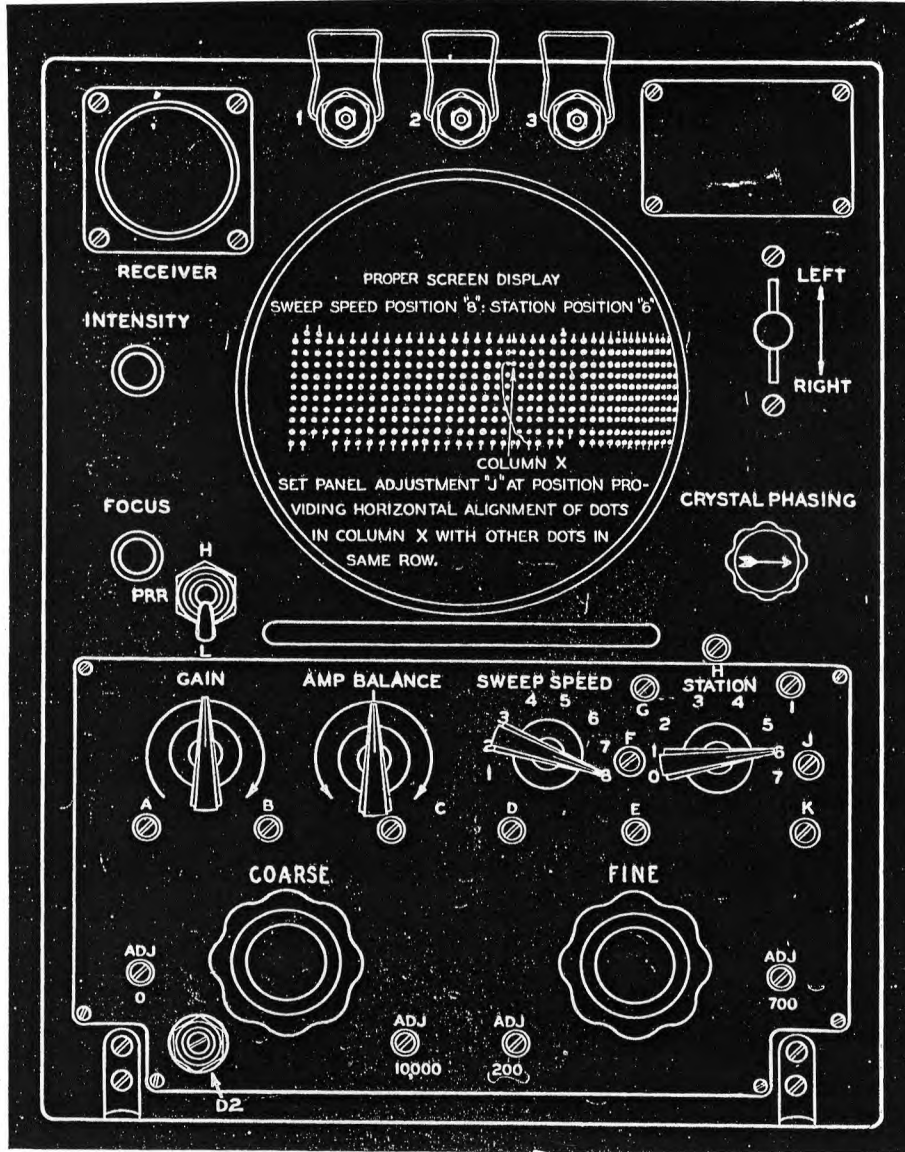

Figure 2-21A. Indicators *ID-6/APN-4 and *ID-6A/APN-4—
1. Turn "STATION" selector to position "6." The screen display should be very similar to that shown in figure 2-21A. Observe that only four dots now appear in column "X," one at the bottom and three near the top. Notice also that column "X" has now moved to the left until the three dots near the top are touching and partially overlapping those in the adjacent column.